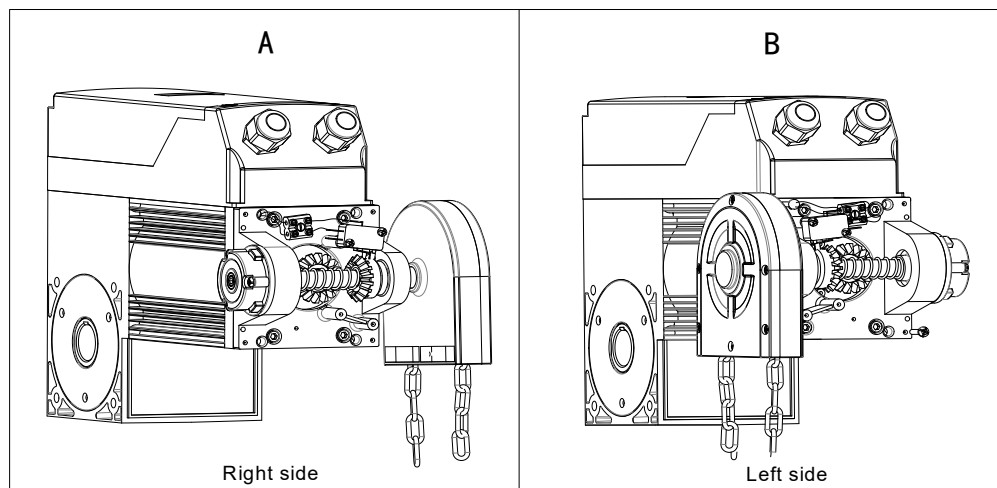

Fig.7
- Loose the 4 screws⑦, remove the plastic cover⑥.
- Unscrew the 4 socket hexagon screws④ by spanner.
- Pull out the wires from terminal block②.
- Remove the terminal block② and limit switch⑤.
- Turn the base③ 180°.
- Connect the wires to terminal block, thus change the chain box from A to B see Fig.7.